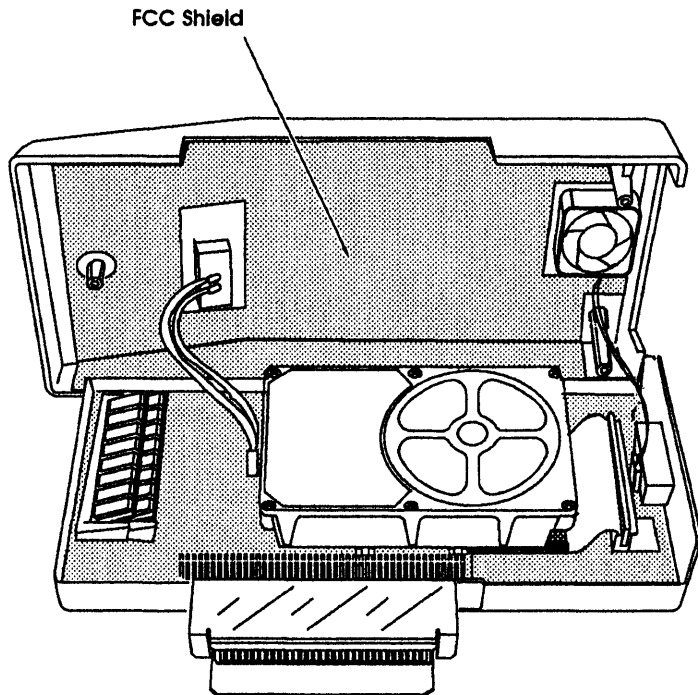

Figure 5.2 – A530 with cover removed.
- 7) Carefully lift the A530's cover straight up (see Figure 5.2). The FCC Shield will come off inside the cover.